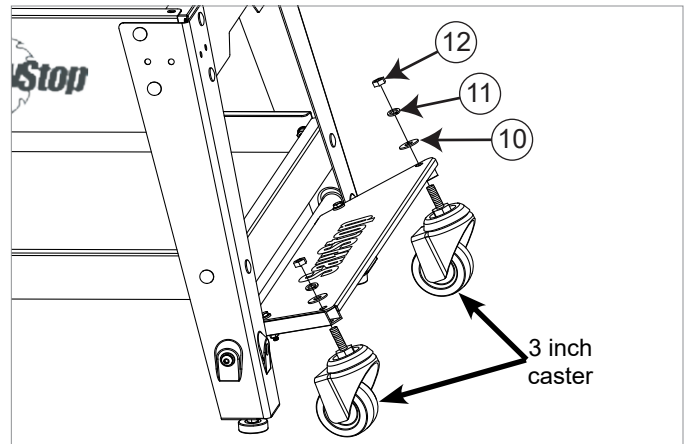

Fig. 8
8. Mount the two casters to the outer corners of the caster support by inserting the threaded shaft on the casters through the corresponding holes in the support and holding the casters in place with two M10.5 x 25 washers, two M10.5 x 17 lock washers and two caster nuts, as shown in Fig. 8. Fully tighten the caster nuts with a 14 mm wrench.